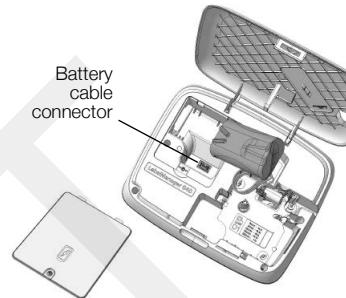

Figure 2
- 3 Disconnect the battery cable from the connector. See Figure 2.
- 5 Insert the new battery as shown, plugging the cable into the connector. See Figure 2.